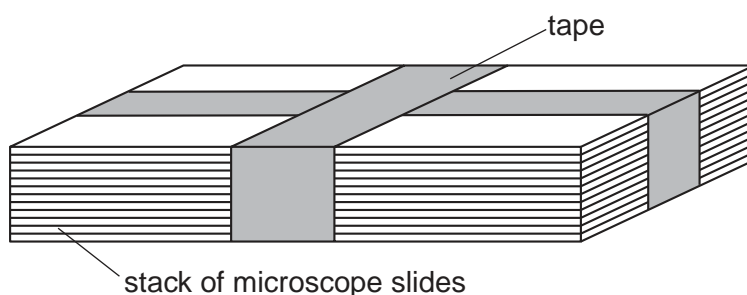

Fig. 2.1
2. All of the microscope slides should be put together in the form of a stack. Tape should be wrapped around the stack as shown in Fig. 2.1 so that the candidates are unable to remove the slides.